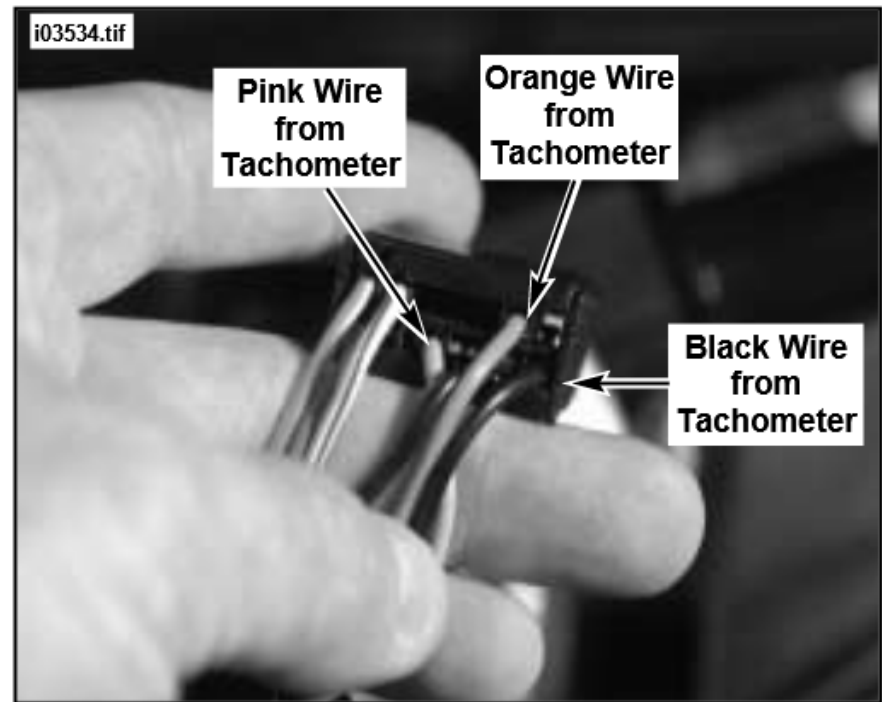

Figure 10. Install Tachometer Wiring Terminals to Connector
27. See Figure 10. Follow instructions under AMP MULTILOCK ELECTRICAL CONNECTORS in Service Manual and wiring diagram (Figure 15) on Page 5 and install the wire terminals from the tachometer to the AMP Multilock Connector [3] as follows: